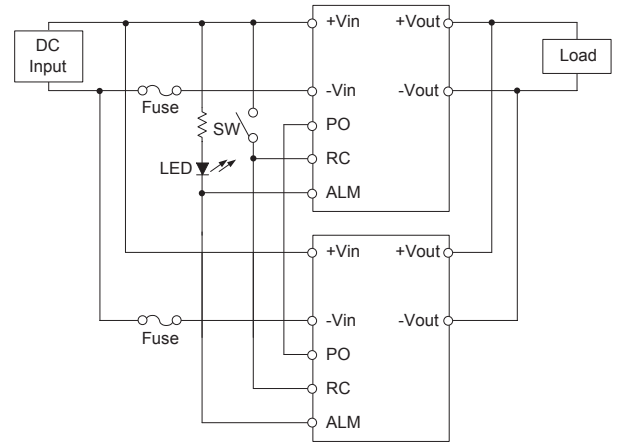

Fig.4.2 Example of parallel operation
■ In parallel operation, connect each PO and ALM pin mutually, wiring as Fig.4.2.